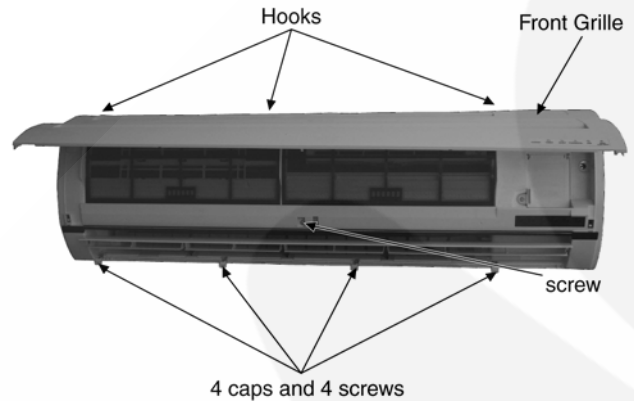

Fig. 1
- Remove the Front Grille centre screw. (Fig. 1)
- Remove the 4 caps and 4 screws at the bottom of the Front Grille. (Fig. 1)
- Remove the Front Grille by releasing the 3 hooks at the top of the Front Grille. (Fig. 1)